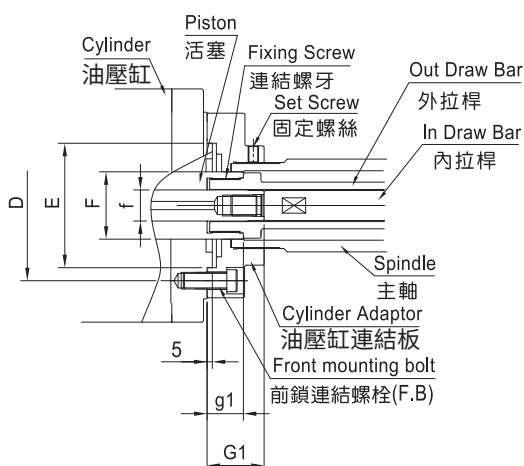

Fig.3.1 油壓缸連結板的安裝
- 確使油壓缸裝置盡量靠近車床主軸支撐處。(參照 Fig.3.1)
- Be sure cylinder near the spindle support of the lathe.(Refer to Fig .3.1)